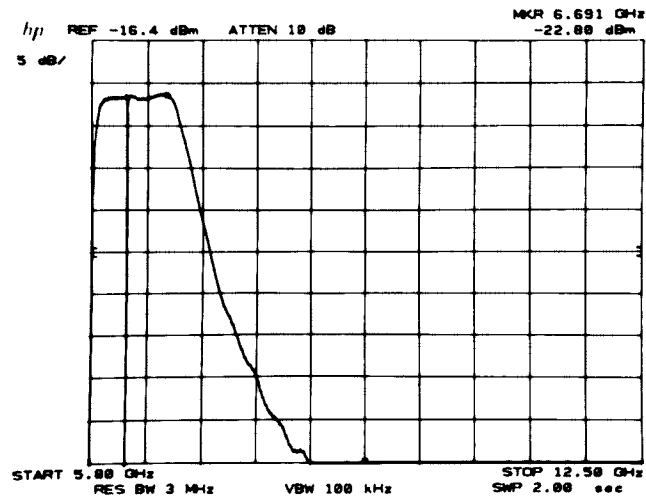

Figure 5-69. Typical Display Showing Roll-Off Point
58. As LB1 is adjusted clockwise, the amplitude of the signal trace will drop beginning at the right edge of the graticule. Refer to Figure 5-69.
86. Adjust LB2 to position the roll-off point at the position of the marker. Do not change the marker position. Refer to Figure 5-69 for typical display.